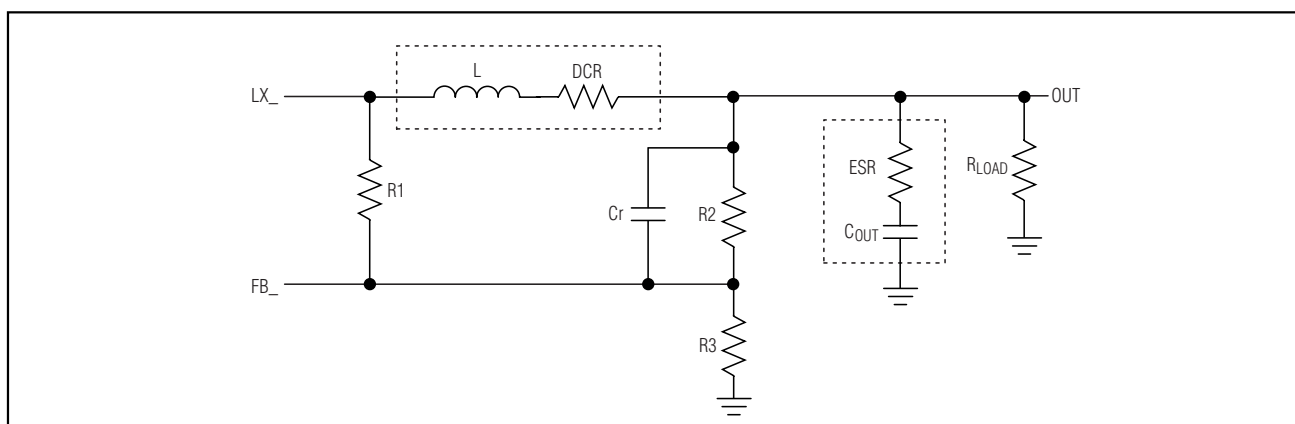

Figure 7. Feedback Network
Figure 7 shows the feedback network used on the MAX8664. With this configuration, a portion of the feedback signal is sensed on the switched side of the inductor (LX), and the output voltage droops slightly as the load current is increased due to the DC resistance of the inductor (DCR). This allows the load regulation to be set to match the voltage droop during a load transient (voltage positioning), reducing the peak-to-peak output voltage deviation during a load transient, and reducing the output capacitance requirements.
To ensure stable operation, connect a compensation capacitor ( $C_r$ ) across the upper feedback resistor as shown in Figure 7. To find the value of this capacitor, follow the compensation design procedure below.